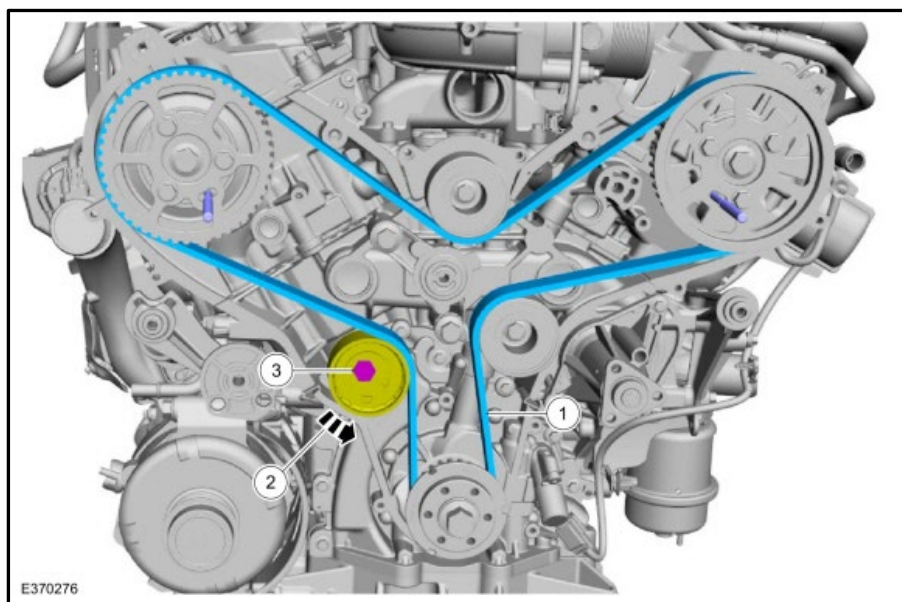

Figure 18
M. Install a new timing belt. Figure 18.